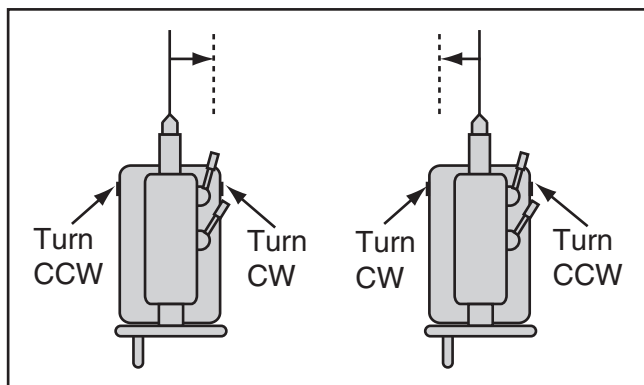

Figure 41. Example of set screw adjustment in relation to tailstock movement.
3. Rotate adjustment set screws in opposite directions for desired offset (see **Figure 41**).